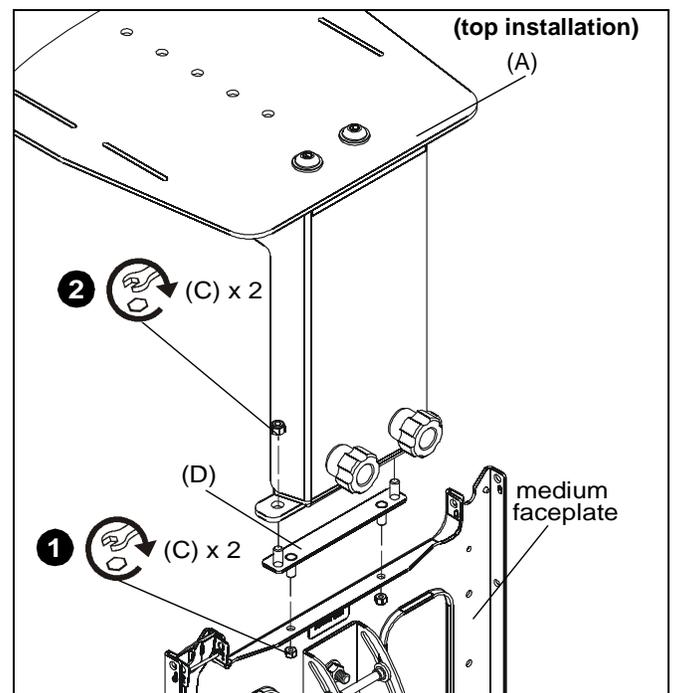

Figure 3
1. Use two 1/4-20" lock nuts (C) to secure medium faceplate adapter (D) to top or bottom of medium faceplate. (See Figure 3 or 4)
2. Thread two 1/4-20" lock nuts (C) onto screws to secure shelf to medium faceplate adapter (D). (See Figure 3 or 4)